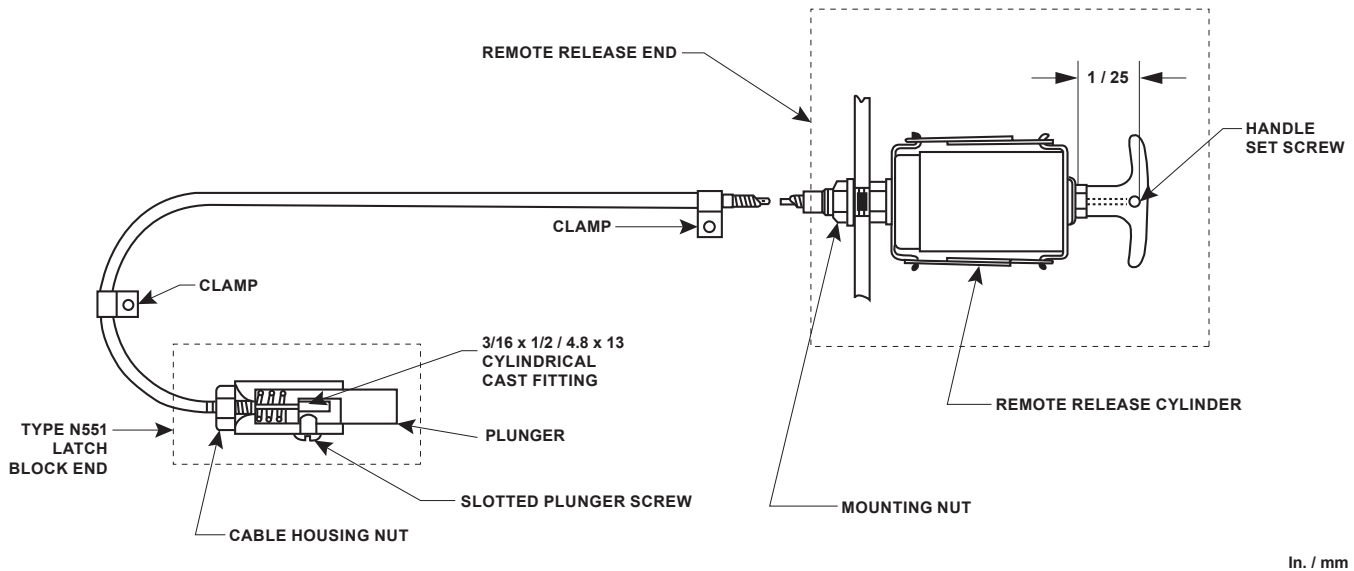

Figure 4. Type P164B Cable Release Installation Schematic
2. If it is necessary to cut the cable to a shorter length, pull about one foot of inner cable from the Type N551 latch block cable end (end with the 3/16 x 1/2 in. / 4.8 x 13 mm long cylindrical cast fitting, see Figure 4) from the housing.
5. Loosen the slotted screw, Figure 4, on the Type N551 valve's latch block until the plunger can be pulled from the latch block.